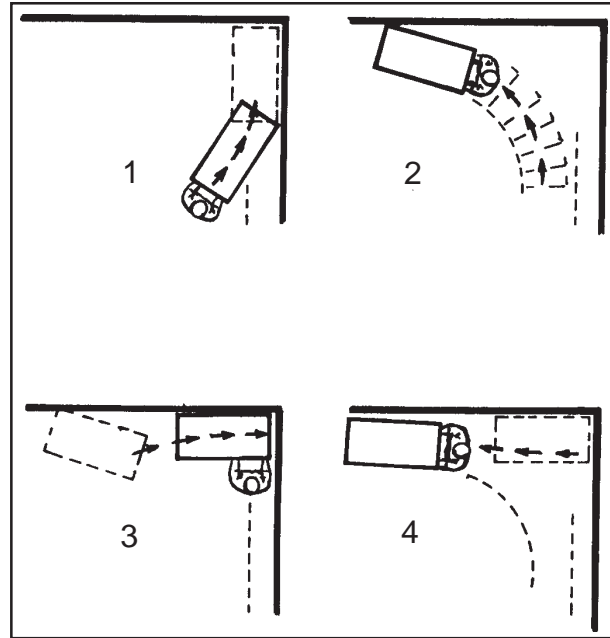

Figure 16
11. When cleaning in a corner, raise the brush, maneuver the machine as illustrated in figure 16. Lower the recovery tool and proceed with cleaning.